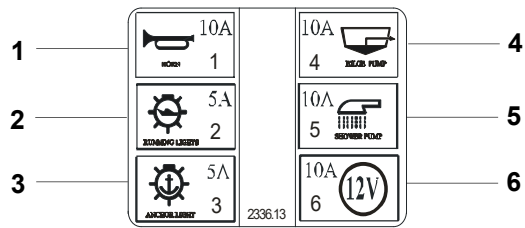

Fig.5
- The purpose of the switches(Fig.5):